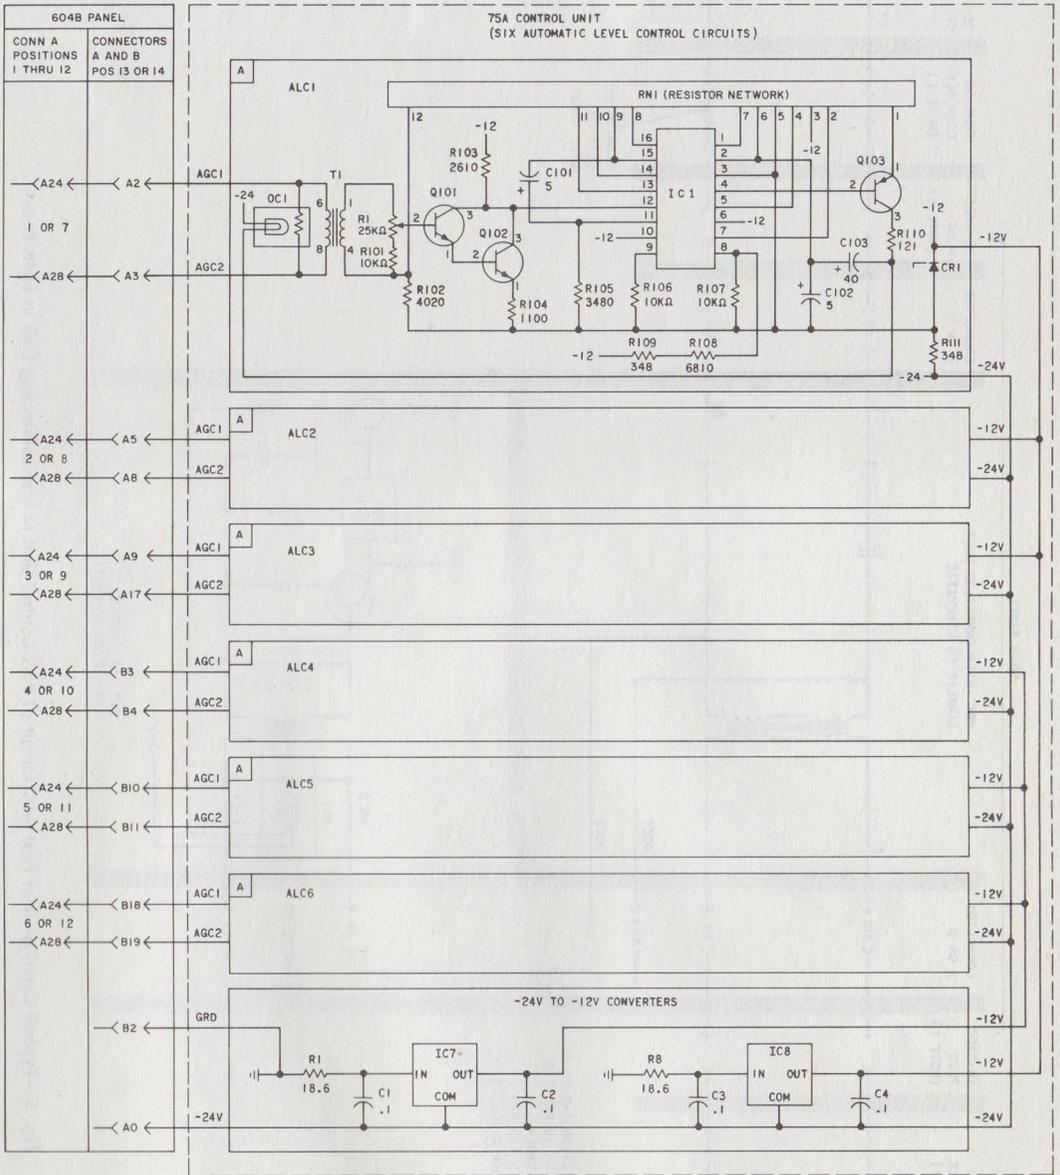

Fig. 4—Simplified Schematic—75A Control Unit
4.06 The six identical ALC circuits in the 75A control unit are powered by the two voltage regulators IC7 and IC8 (Fig. 4). Each voltage regulator supplies three ALC circuits. The two regulators convert the -24 volts dc supplied to the 75A into regulated -12 volt dc. Each voltage regulator supplies 180ma (60ma for each ALC) at 12.0 ± 0.5 volt dc. The minimum current drain